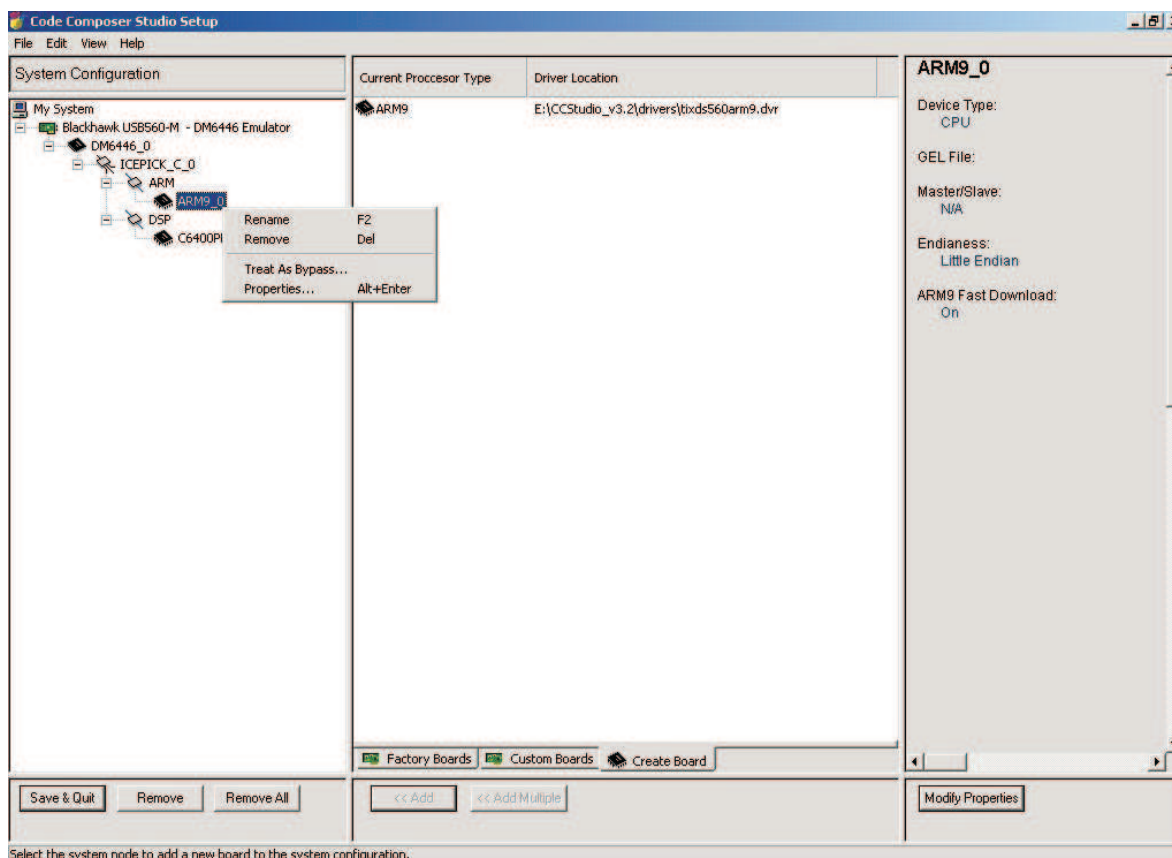

Figure 3. Code Composer Studio Configuration Gel File Setup
- Step 6. Set up the appropriate GEL files for ARM® and DSP by right-clicking on the corresponding item and selecting properties (as shown in Figure 3).